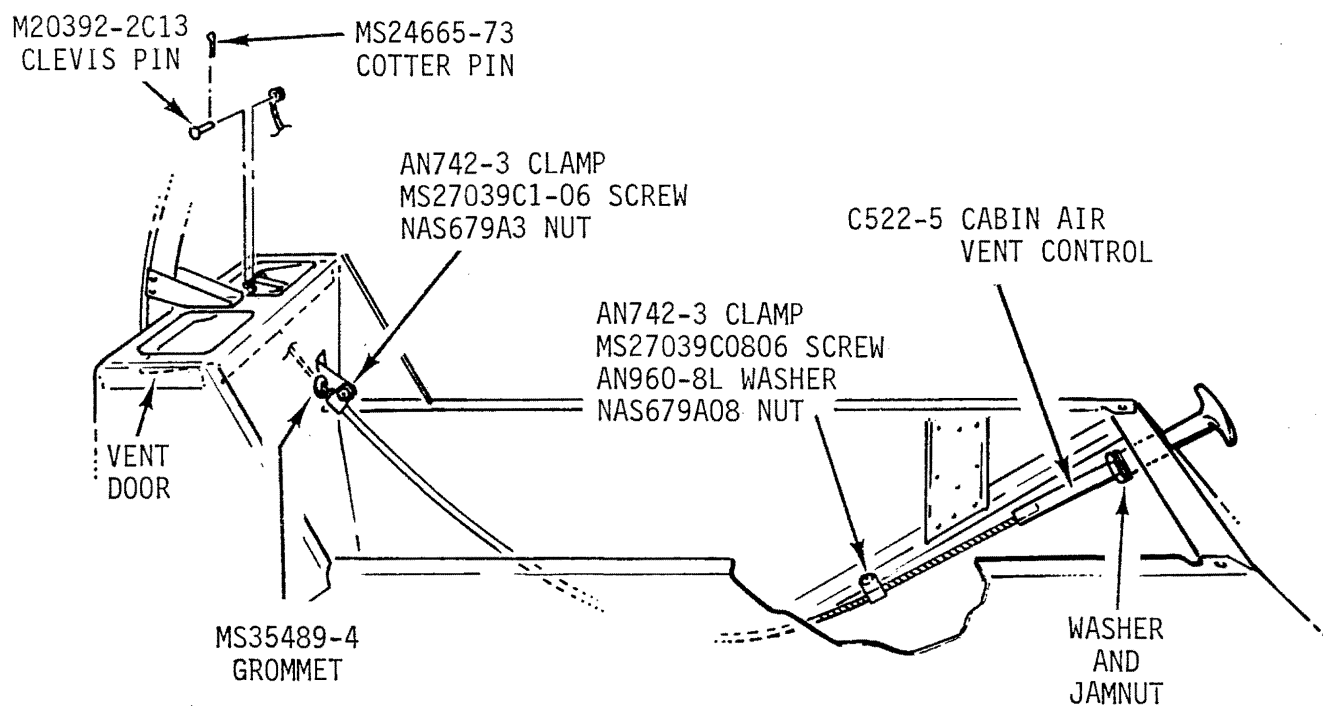

FIGURE 11-2 CABIN AIR VENT INSTALLATION
11.210 Cabin Air Vent Cable Removal (See Figure 11-2)
11.220 Cabin Air Vent Cable Installation (See Figure 11-2)